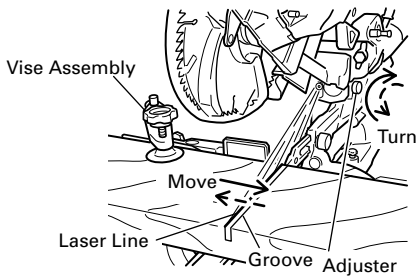

Fig. 20
(1) Light up the laser marker and make a groove of about $\frac{3}{16}$ " (5mm) deep on the workpiece that is about $\frac{25}{32}$ " (20mm) in height and $5\text{-}\frac{29}{32}$ " (150mm) in width. Hold the grooved workpiece by vise as it is and do not move it. For grooving work, refer to "11. Groove cutting procedures" on page 24.
(2) Then, turn the adjuster and shift the laser line. (If you turn the adjuster clockwise, the laser line will shift to the right and if you turn it counterclockwise, the laser line will shift to the left.) When you work with the ink line aligned with the left side of the saw blade, align the laser line with the left end of the groove. (Fig. 20) When you align it with the right side of the saw blade, align the laser line with the right side of the groove.
(3) After adjusting the position of the laser line, draw a right-angle ink line on the workpiece and align the ink line with the laser line. When aligning the ink line, slide the workpiece little by little and secure it by vise at a position where the laser line overlaps with the ink line. Work on the grooving again and check the position of the laser line. If you wish to change the laser line's position, make adjustments again following the steps from (1) to (3).